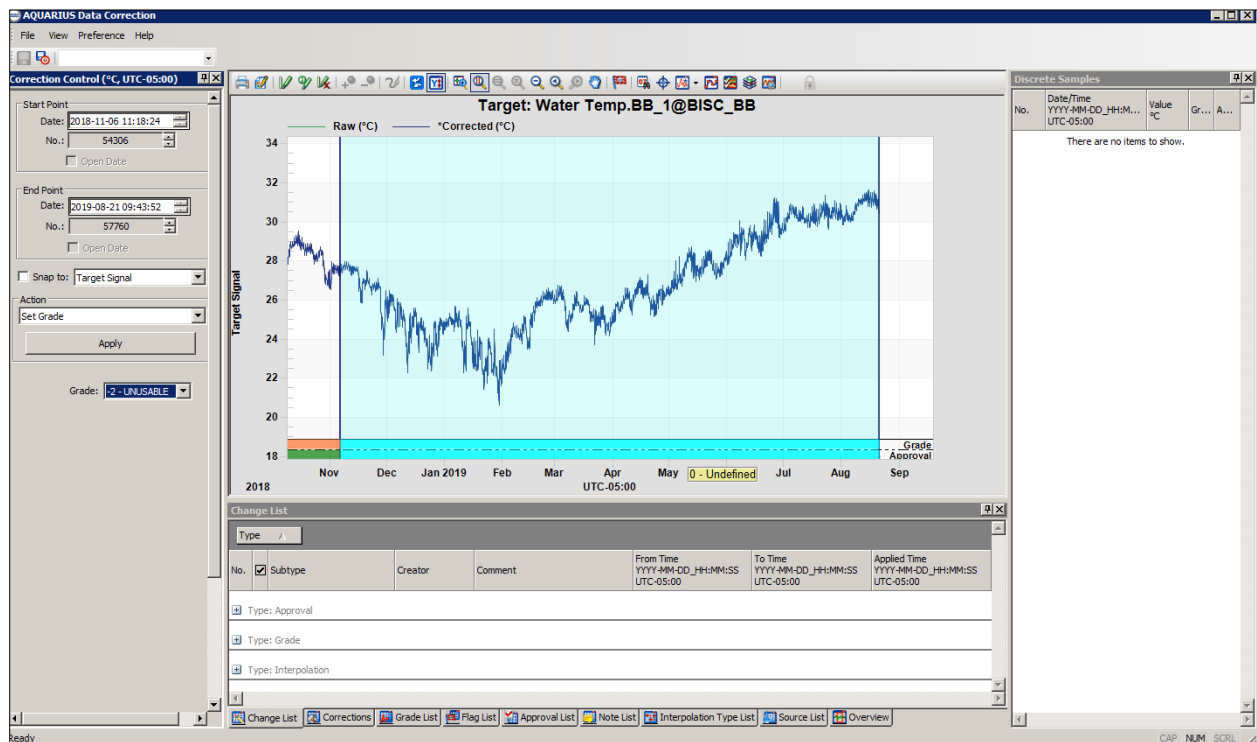

Figure 5. Screenshot showing the Aquarius Data Correction window with undefined data selected.
5. Hover over the light blue bars and double-click to select the newly appended data (Figure 5).